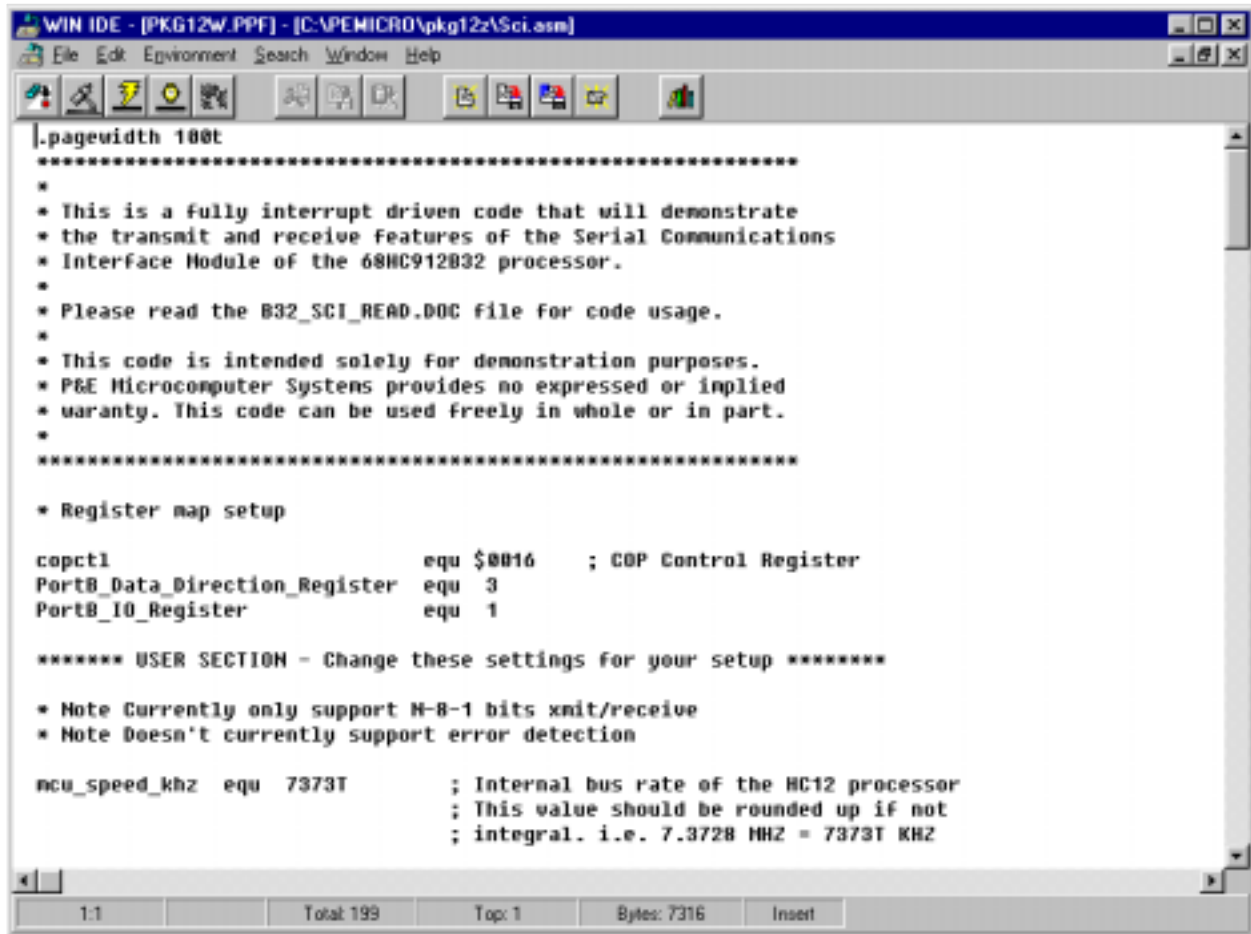

Figure 6. P&E's WinIDE Window
7. Assemble/compile this file. See Figure 6.
7. Assemble/compile this file. See **Figure 6**. At this point, ensure that the FLASH is programmed as in the previous application example in **In-Circuit Programming of Internal FLASH**.